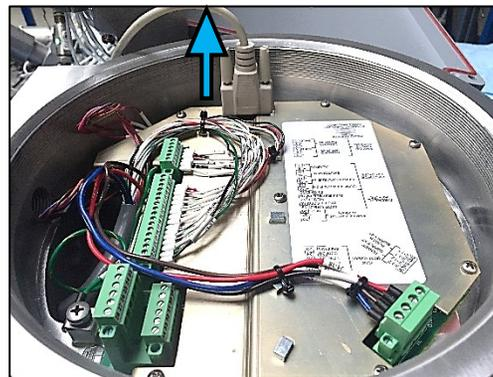

Figure 2-9. Disconnecting RS-232 Link
21. Disconnect the communication cable from the withdrawn VariStroke (Figure 2-9).